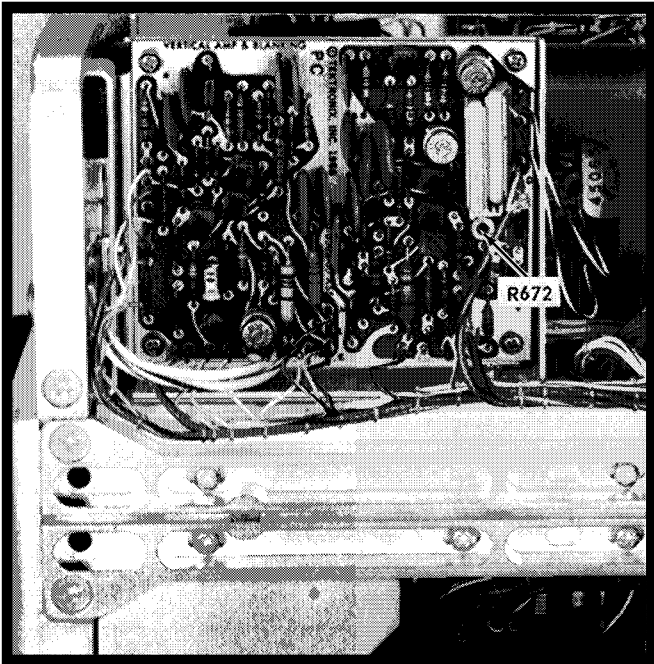

Fig. 6-10. Location of Vertical Amplifier Gain adjustment R672.
- d. Adjust the Vertical Amplifier Gain R672 (Fig. 6-10) for a signal amplitude on the Type 491 of 5 major divisions.